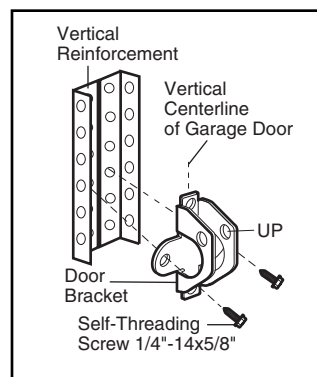

Figure 2A
- Drill 3/16" fastening holes. Secure the door bracket using the two 1/4"-14x5/8" self-threading screws (Figure 2A).